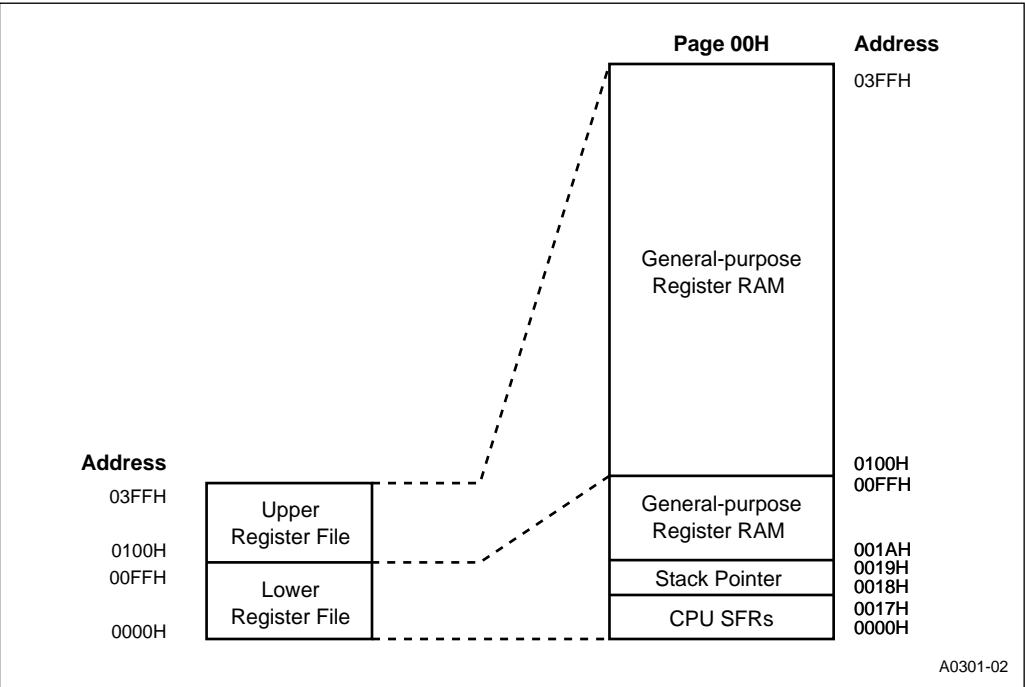

Figure 5-3. Register File Memory Map
The register file is divided into an upper register file and a lower register file (Figure 5-3). The upper register file consists of general-purpose register RAM. The lower register file contains additional general-purpose register RAM along with the stack pointer (SP) and the CPU special-function registers (SFRs).